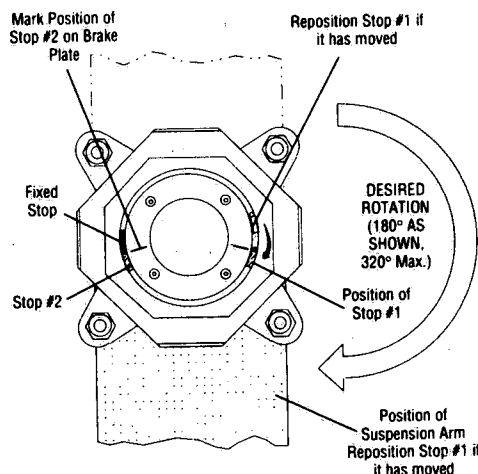

Figure 3-9. Mark Position of Second Cushioned Stop
- Manually rotate suspension arm in opposite direction until other end of the desired range of rotation is reached (see Figure 3-9). Locate second cushioned stop. If second cushioned stop is not touching fixed stop, move appropriate stop ring, with small screwdriver, until second cushioned stop is touching fixed stop.
- Mark second stop's position on top of the brake plate (see Figure 3-9). If first cushioned stop has moved from the first mark, move appropriate stop ring, with small screwdriver, until first stop is aligned with first mark.
- Manually rotate suspension arm in opposite direction until other end of the desired range of rotation is reached (see Figure 3-9). Locate second stop. If second stop is not touching fixed stop, move appropriate stop ring, with small screwdriver, until second stop is touching fixed stop.
8. Manually rotate suspension arm in opposite direction until other end of the desired range of rotation is reached (see Figure 3-9). Locate second cushioned stop. If second cushioned stop is not touching fixed stop, move appropriate stop ring, with small screwdriver, until second cushioned stop is touching fixed stop.
9. Mark second stop's position on top of the brake plate (see Figure 3-9). If first cushioned stop has moved from the first mark, move appropriate stop ring, with small screwdriver, until first stop is aligned with first mark.